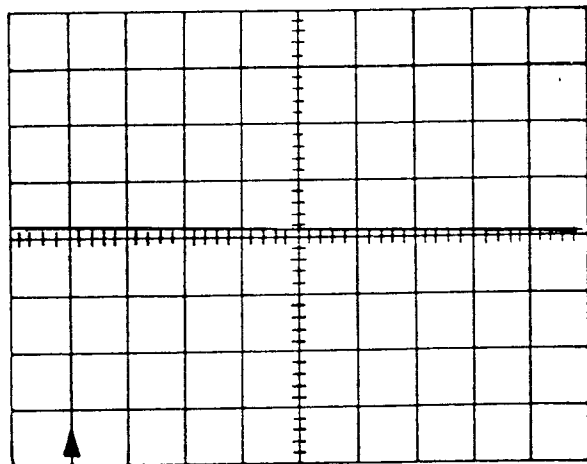

Fig. 4-11. Trace Rotation
- E. Adjust R3143 (TRACE ROTATION, Output Amp board) so the trace is parallel to the center graticule line. Check that there is no deviation greater than .1 division (see Fig. 4-11).